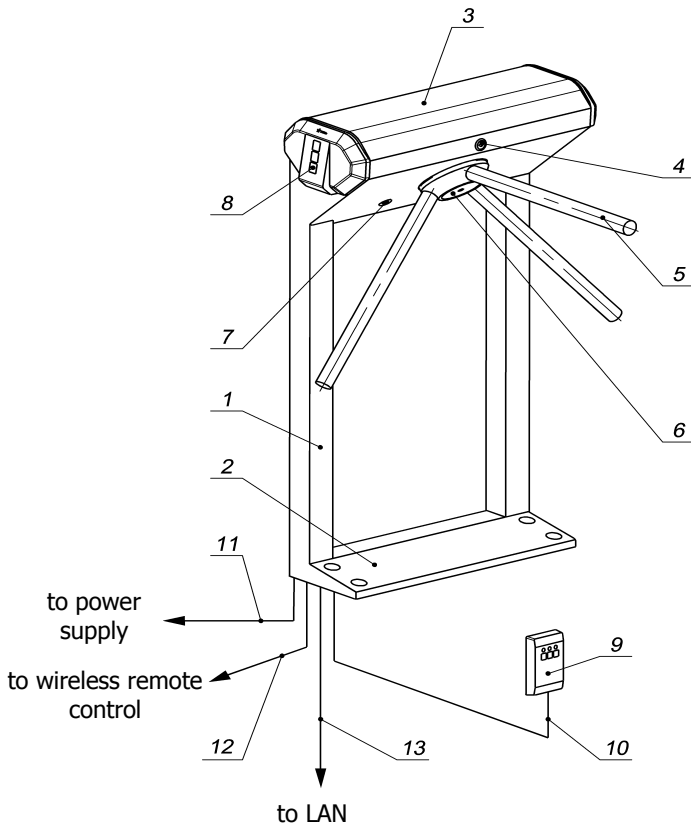
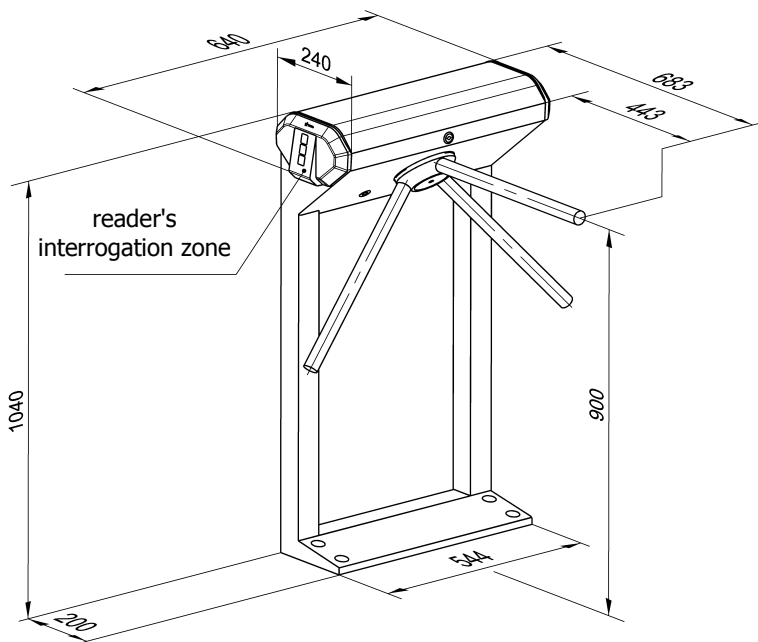

Figure 1 – KT-02 design:
Figure 2 —KT-02 Overall dimensions
5.2.1 The KT-02 design is given in Figure 1, the numbers of the
The overall dimensions are given in Figure 2. KT-02 consists of a housing with an inbuilt controller and two readers, three barrier arms and a control panel (ref. Figure 1 1, parts 1-3, 5 и 9).